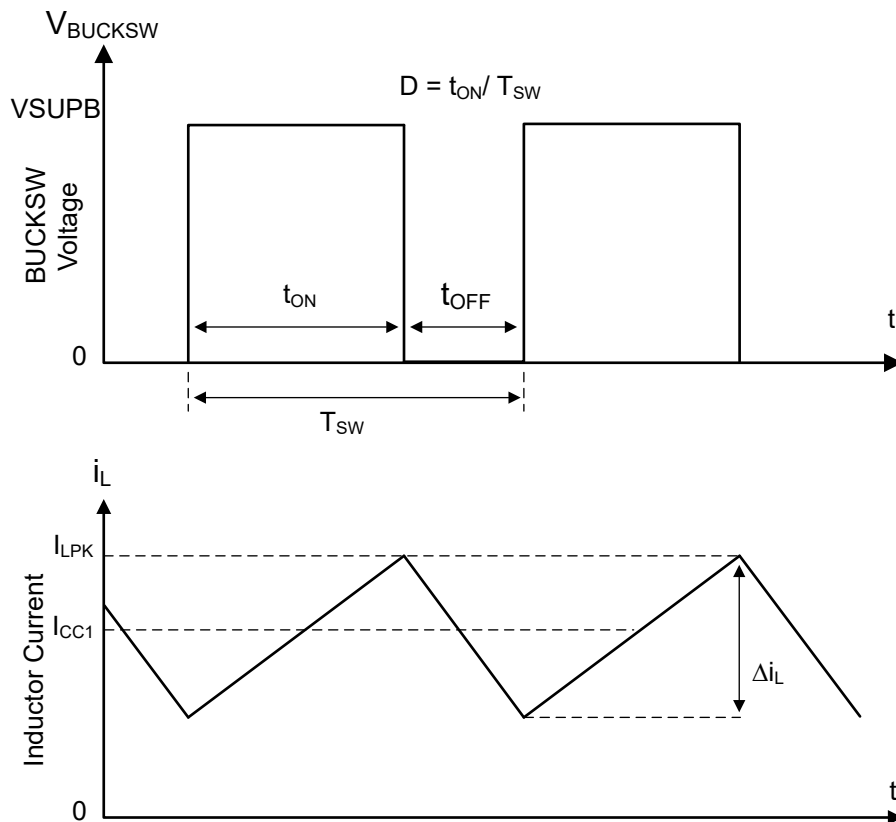

Figure 8-5. Switching node waveform in the Continuous Current Mode (CCM)
The buck regulator integrated in TCAN245x-Q1 is a step-down synchronous buck converter with integrated high-side (HS) and low-side (LS) switches. The regulator supplies a regulated output voltage by turning on the high-side and low-side NMOS switches with controlled duty cycle. Refer to Figure 8-5. During high-side switch ON time, the BUCKSW pin voltage swings up to approximately V_{SUPB} , and the inductor current, i_L , increases with linear slope $(V_{SUPB} - V_{CC1}) / L$. When the high-side switch is turned off by the control logic, the low-side switch is turned on after an anti-shoot-through dead time (t_D). Inductor current discharges through the low-side switch with a slope of $-V_{CC1}/L$. The control parameter of a buck converter is defined as Duty Cycle $D = t_{ON} / T_{SW}$, where t_{ON} is the high-side switch ON time and T_{SW} is the switching period. The converter control loop maintains a constant output voltage by adjusting the duty cycle D . In a buck converter, where losses are ignored, D is proportional to the output voltage and inversely proportional to the input voltage: $D = V_{CC1}/V_{SUPB}$.